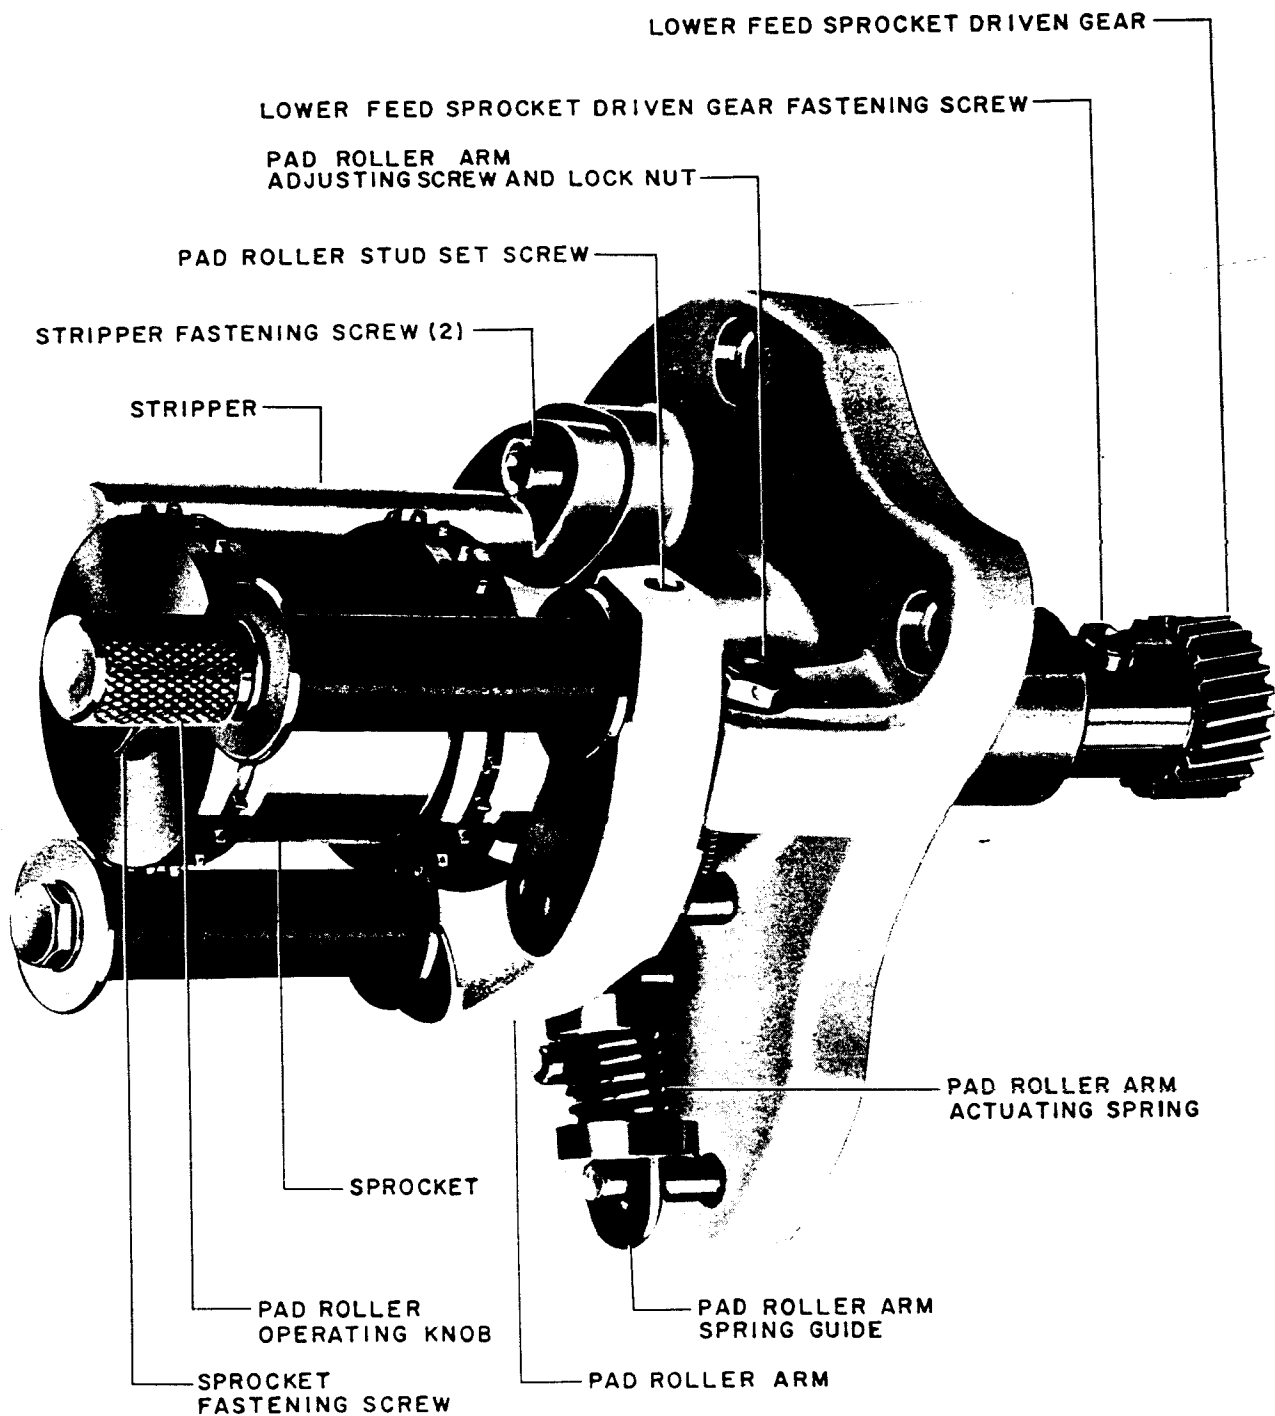

Figure 4-5
E. HEAT BAFFLE REPLACEMENT (See figure 4-5.)
2. Timing (See figure 4-5.)
3. Intermittent Sprocket Replacement (See figure 4-5.)
- c. Loosen the two swivel mounting pin fastening screws on the dowser (figure 4-5) and withdraw the flexible shaft from the hole in this pin.